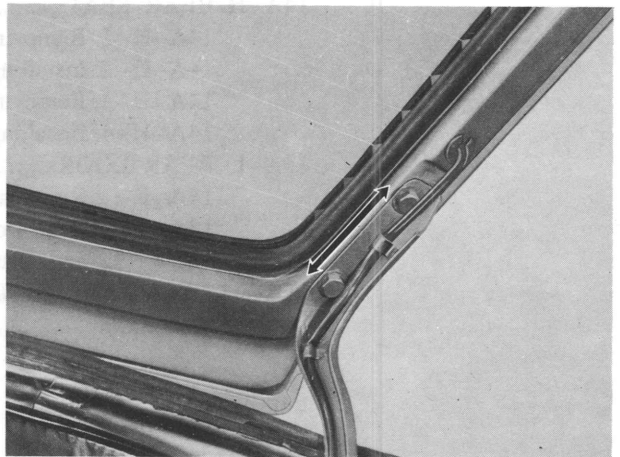

Fig. 14A-5 Adjusting up-and-down
3. Adjust the back door for closing, by moving the back door lock striker as shown in Fig. 14A-6, or inserting the shims of proper thickness between the striker and the body.